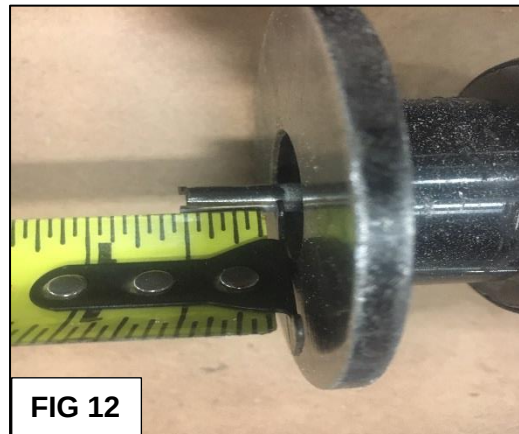

FIG 12
- FIG 12:** Install a 1/4" router bit on the router, and set the bit depth at 9/16 inch.